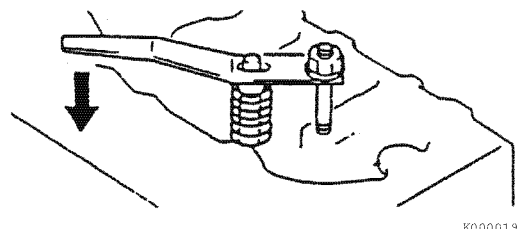

Figure 6-12
3. Using the valve spring compressor tool, compress one of the valve springs (**Figure 6-12**).